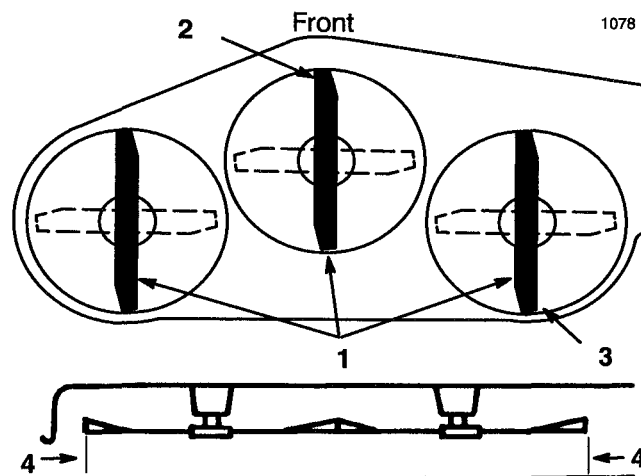

Figure 13
4. Move the height-of-cut lever (deck lift) into the "C" notch and carefully rotate the blades so they are facing front to rear (Fig. 13).
5. Measure between the tip of the front blade (Fig. 13) and the tip of the rear blade to the flat surface. If the front blade tip is not $0-5/16"$ (0-8 mm) lower than the rear blade tip an adjustment front mower mounting plate at axle (Fig. 13).